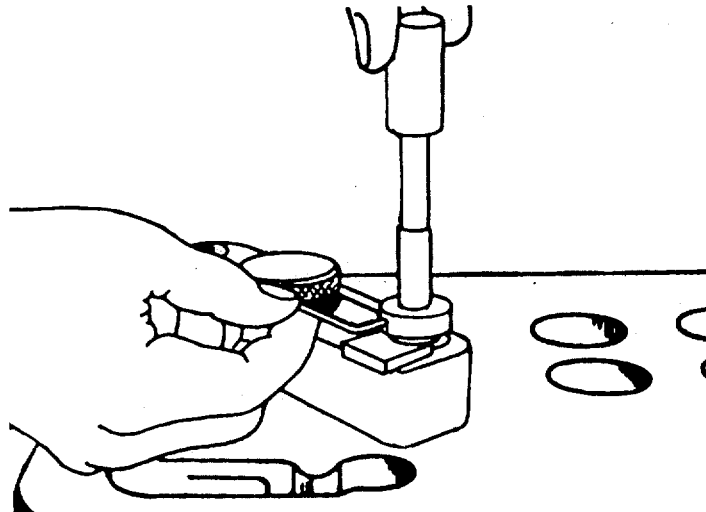

FIGURE 4-11. Adjusting Counterbore Cutter.
- 5 Slide the stop collar down against the gauge block (FIGURE 4-11). Tighten the setscrew in the stop collar.